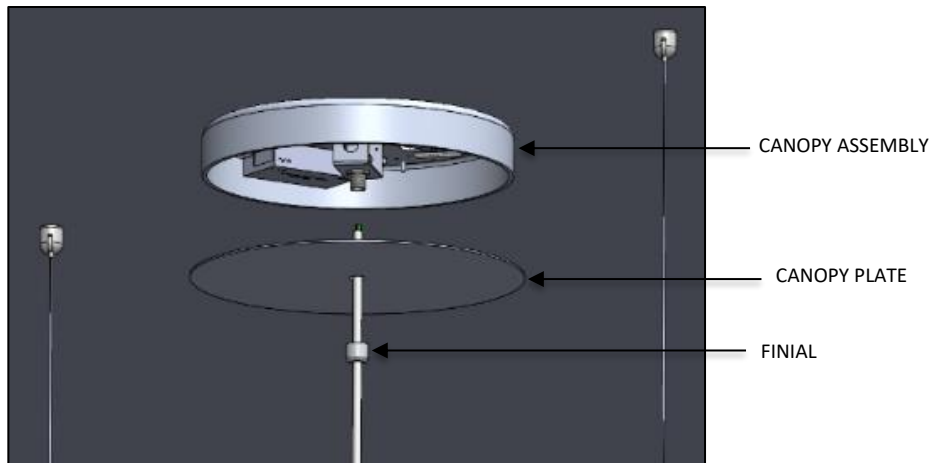

FIG. 20 - FINIAL INSTALLATION
15. Raise CANOPY PLATE and secure to ceiling by threading the FINIAL until fully seated as shown in FIG. 20.